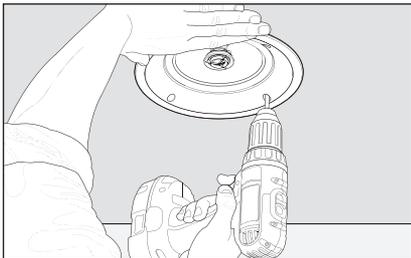

Fig. 5d
10. Supporting the assembly with one hand, tighten each screw. Stop tightening when you sense resistance (Figs. 5d & 6d). **IC6-ST and IC6-HT:** Before tightening screws orient speaker so the drivers are positioned towards the desired position.